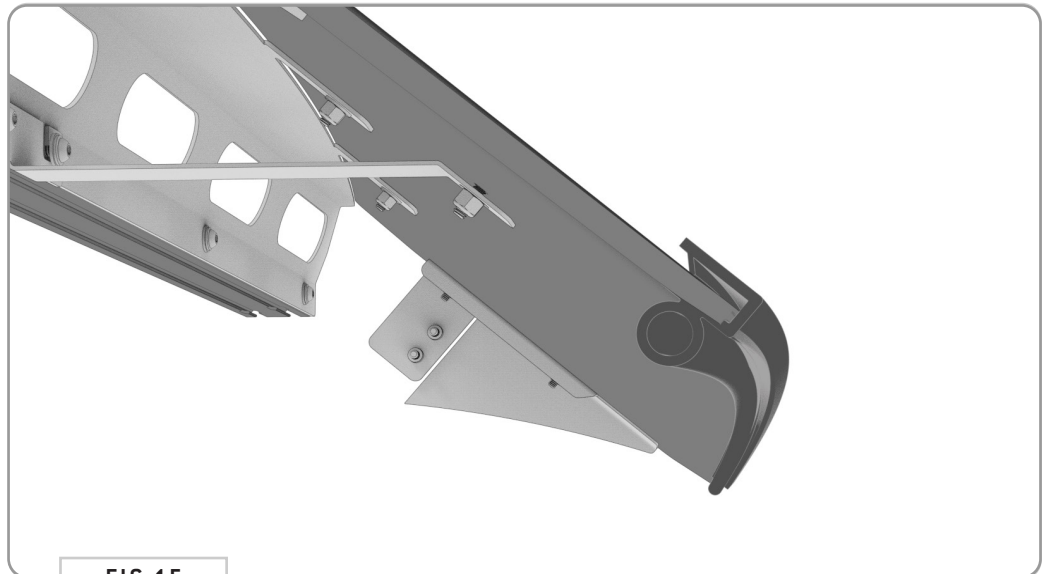

FIG 15
4.7 Fairing Gasket Trim: Attach the Fairing Gasket Trim to the Front Fairing in the orientation shown in FIG 15. Make sure the "bulbed" side is facing inward.